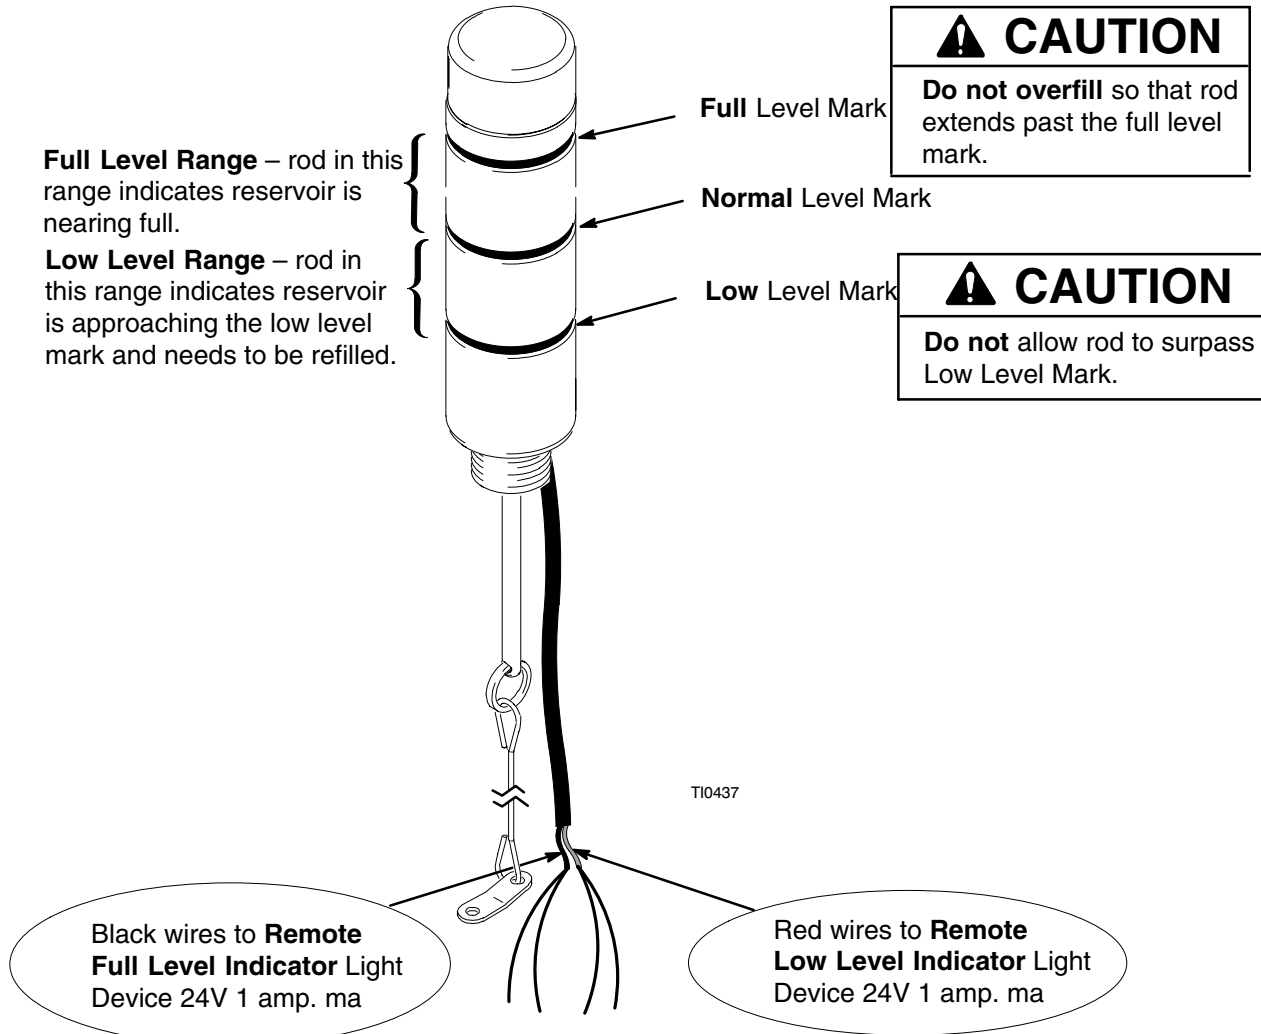

Fig. 3
The level indicator comes with two sets of wires, see fig.3. One set of wires is shrink wrapped in red and one set in black. Both switches are normally open, voltage-free switches, and can be used as a switching device for activating an external alarm or light. The alarm or lights indicate a full or low level situation.
1. Connect the red set of wires, see fig. 3, to the **LOW** level indicator device.
2. Connect the black set of wires, see fig. 3, to the **FULL** level indicator device.